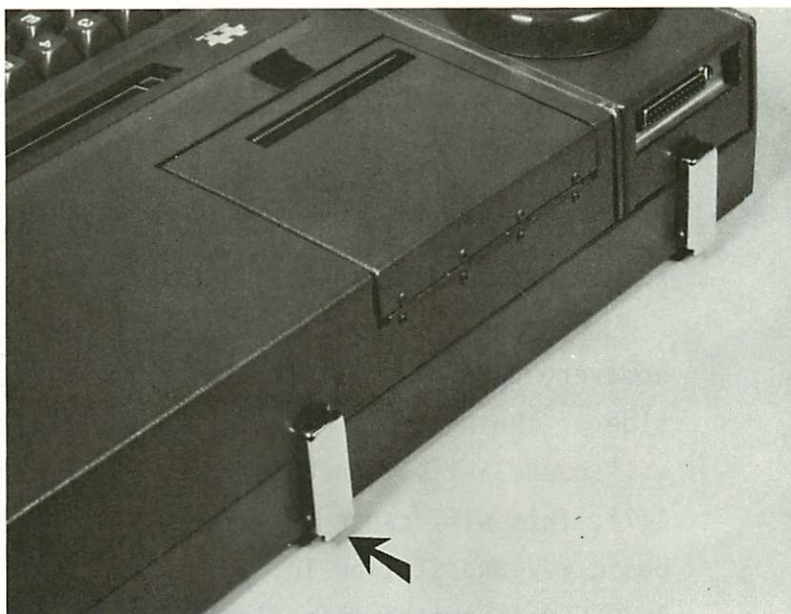

Figure 4.6 Release Catch (Arrow)
*To remove the top cover, first release the catch on the rear of the unit (arrow, figure 4.6).